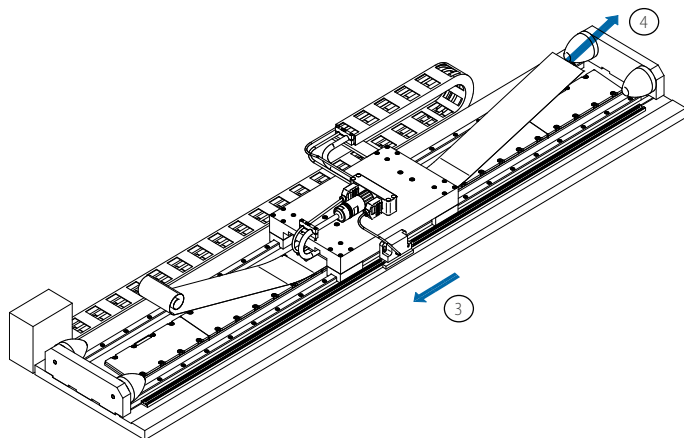

Figure 5.7: Moving the slide and lifting up the cover.
2. Move the slide to the middle of the stroke (3). Now lift up the ends of the cover so that only a small part of the cover underneath the slide sticks to the magnet plate (4), see figure 5.7.